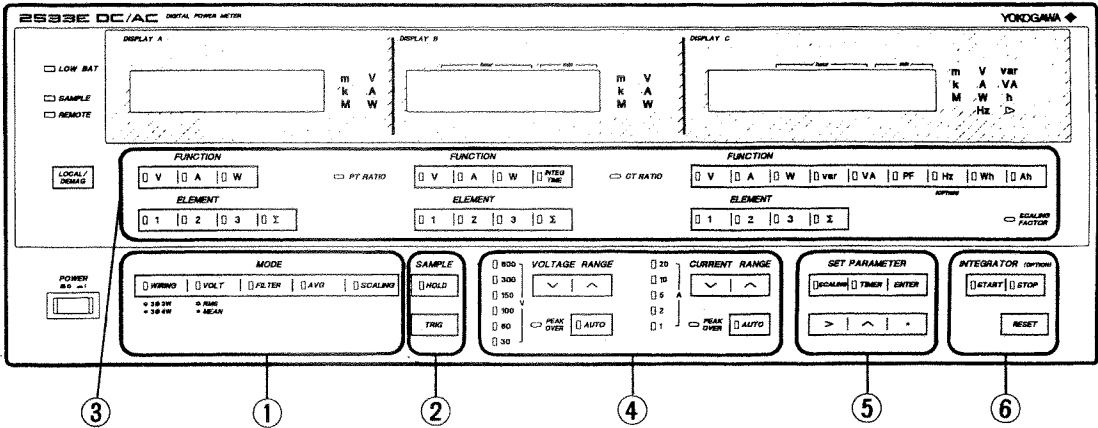

Figure 2-19.
Install the backup batteries according to section 2-2. Before any settings have been made with the front panel keys, the settings of the keys shown in Figure 2-19 when turning on power are at a default status given below. For a DC/AC model, when the power turns on, its DC-CT core is demagnetized.
A measurement mode is selected by MODE keys shown by ① in Figure 2-19. The initial status of the keys are given in Table 2-7.
The sampling hold status is turned ON or OFF by SAMPLE keys indicated by ② in Figure 2-19. The initial settings are given in Table 2-8.
A display mode is selected by FUNCTION and ELEMENT keys corresponding to DISPLAY A, B and C shown by ③ in Figure 2-19. The initial settings of the keys are given in Table 2-9.
Each measurement range is selected by VOLTAGE RANGE (V) and CURRENT RANGE (A) keys shown by ④ in Figure 2-19. The initial settings are given in Table 2-10.
Press  key, shown by ⑤ in Figure 2-19. The key lamp comes on and, at the same time, PT ratio, CT ratio and scaling factor initial set value are indicated on DISPLAY A, B and C, as shown in Table 2-11.
Press  key, shown by ⑤ in Figure 2-19. The key lamp comes on, DISPLAY A and B disappear as shown in Table 2-12, and initial timer setting is indicated on DISPLAY C.
At the same time, INTEGRATOR Keys shown by ⑥ in Figure 2-19 give initial settings shown in Table 2-13.